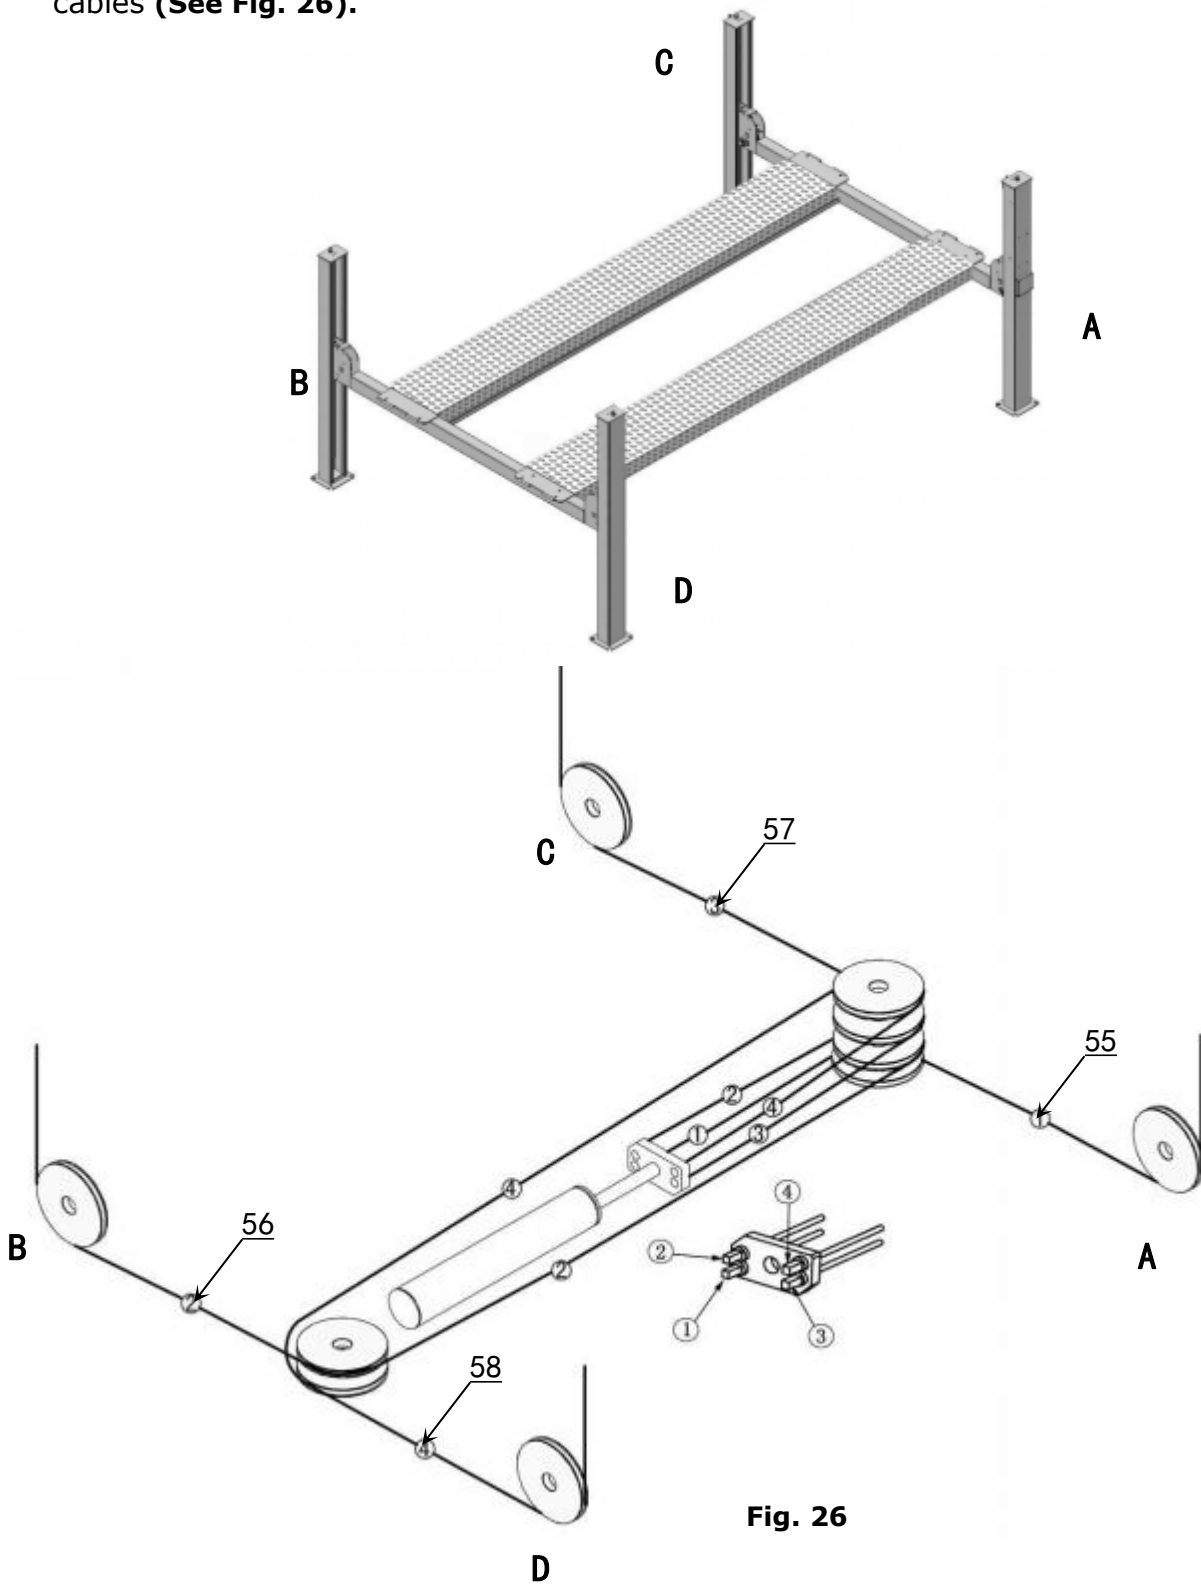

Fig. 26
1. Pass through the cables from the platform to the columns according to the number of the cables (See Fig. 26).